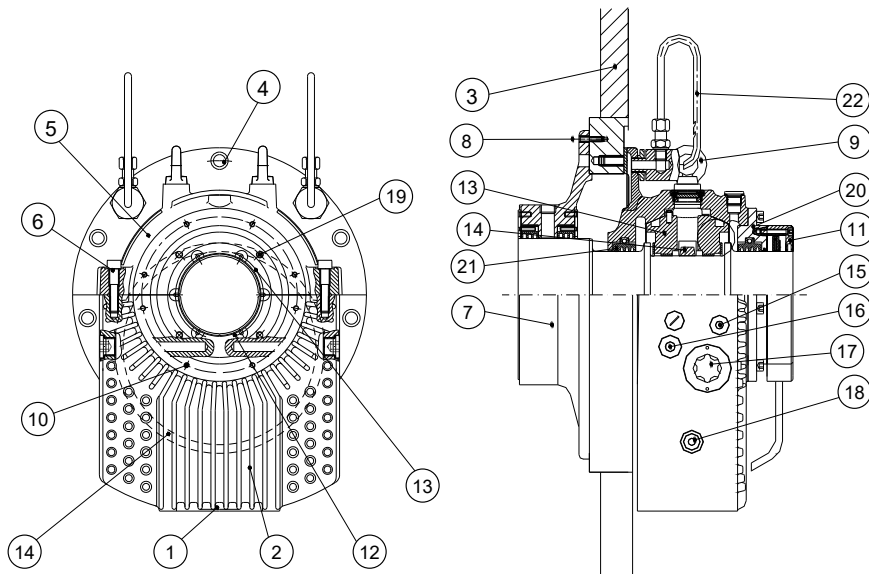

Figure 7.9: Parts of the sleeve bearing
**Figure 7.9 legend:**
In order to disassemble the bearing and get access to the bearing shells, as well as to other components, proceed carefully as the following guidelines. Keep all parts in a safe place (Figure 7.9).